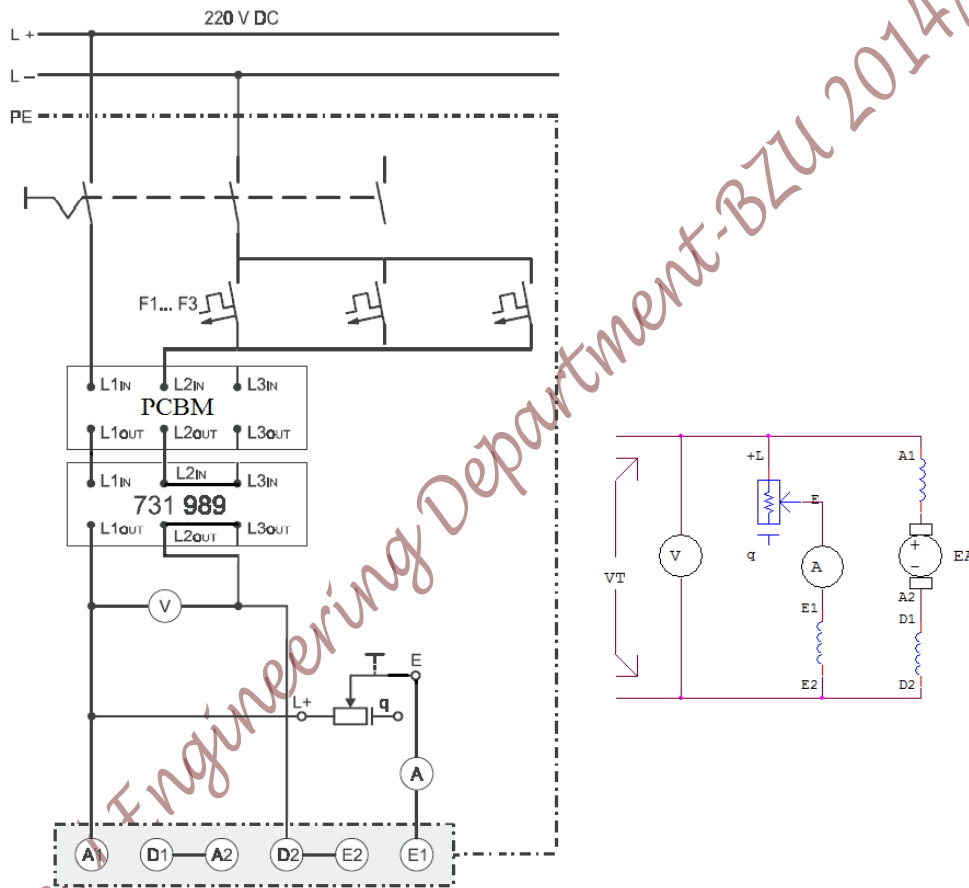

Figure 9.3: Circuit for speed control of a compounded-wound motor via a field regulator
1. Change the circuit to Figure 9.3